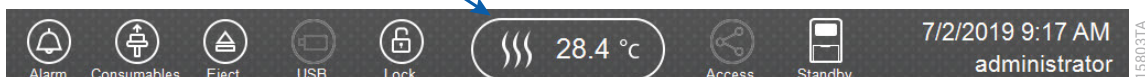

Figure 6. Preheating oven.
2. Select the **Oven Temperature** icon in the Header on the ‘Main Menu’ screen as shown in Figure 6 to start preheating the oven temperature to 60°C. The temperature displayed will change as the temperature of the oven increases. When 60°C is reached, a check mark will appear adjacent to the temperature.